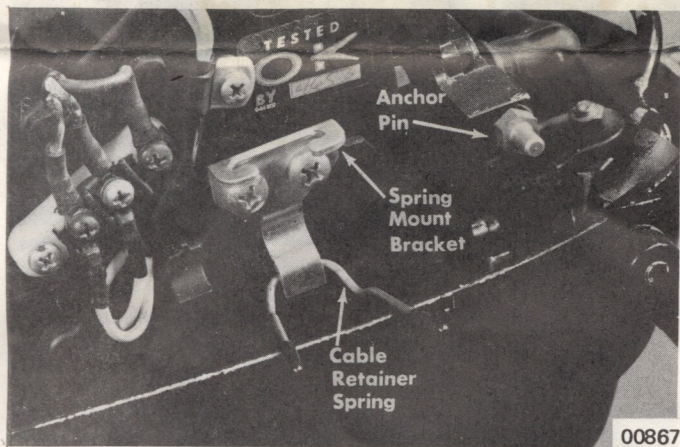

Figure 8. Installing Mount Bracket and Cable Retainer Spring
2. Install spring mount bracket and cable retainer spring to exhaust cover (left side of engine) with two 3/8" (9.5mm) long phillips head screws. (Figure 8)
3. Install throttle cable anchor pin to cylinder block cover with a ¼"-28 nut. (Figure 8) Anchor pin is part of cylinder block cover on 1974 models.